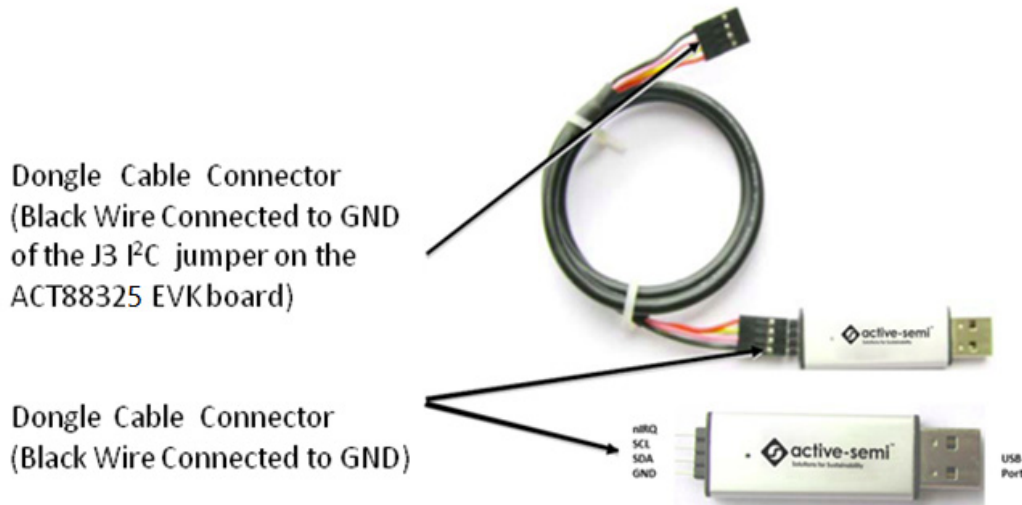

Figure 4 – USB-TO-I2C Dongle Connection
3. Connect the USB-TO-I2C dongle to the EVK J14 connector. Refer to Figure 4 to ensure the correct polarity of the connection. As a guide, use the "Active-Semi" logo on the top of the dongle so the black wire is connected to the Dongle GND pin.